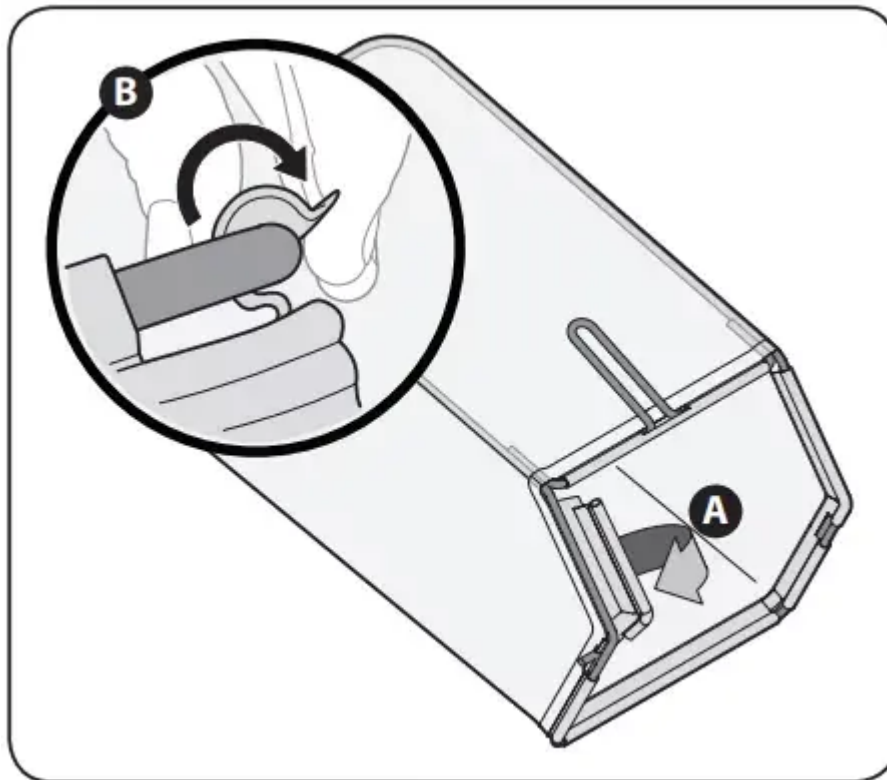

Figure 3-7
2. Slip plastic channel of grass bag over hooks on the frame. See Fig. 3-7.